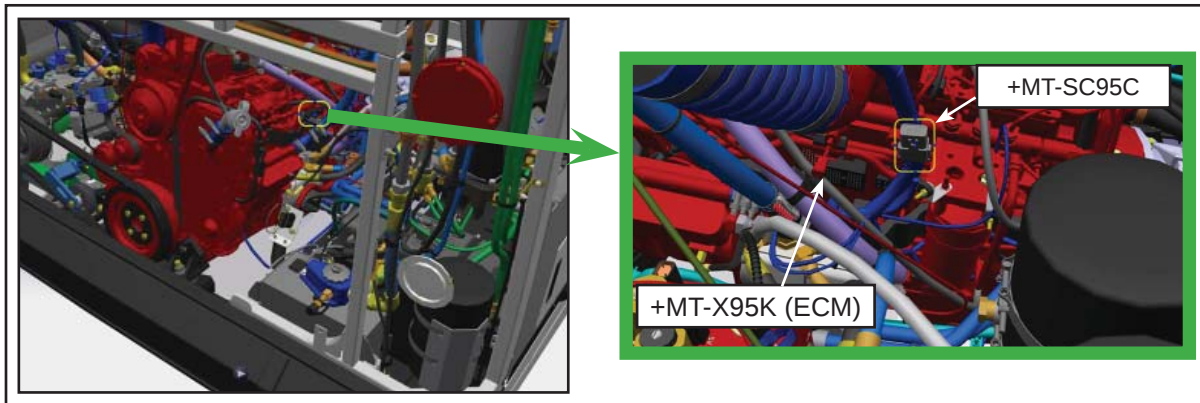

Figure 5 - Location of the +MT-X95K (ECM) and +MT-SC95C Connectors in the Engine Compartment
- 1.9. Locate the +MT-X95K (ECM) electrical connector in the engine compartment. See Figure 5.
- 1.12. Locate the +MT-SC95C (splice connector) in the engine compartment. See Figure 5.